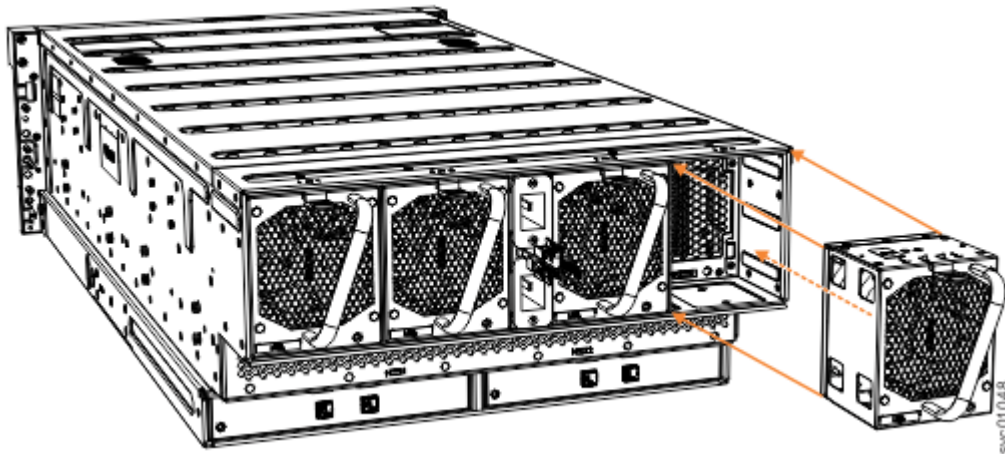

Figure 161. Remove and replace a fan module
3. Use the handle to pull the fan module out of the expansion enclosure chassis, as shown in Figure 161 on page 204.
6. Carefully insert the fan module into the chassis until it clicks in place, as shown in Figure 161 on page 204.